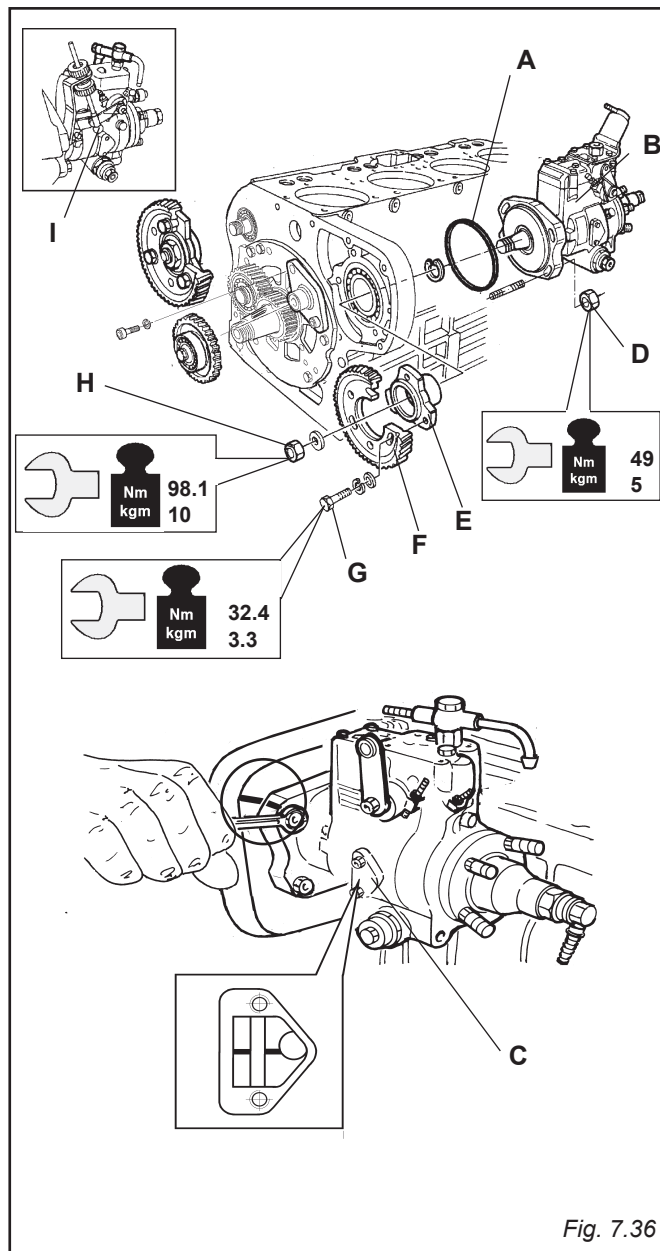

Fig. 7.36
7.19 ASSEMBLY OF ROTARY INJECTION PUMP AND RELATIVE INJECTION PHASE (SUN 4105 - 6105 ENGINES) (FIG. 7.36)